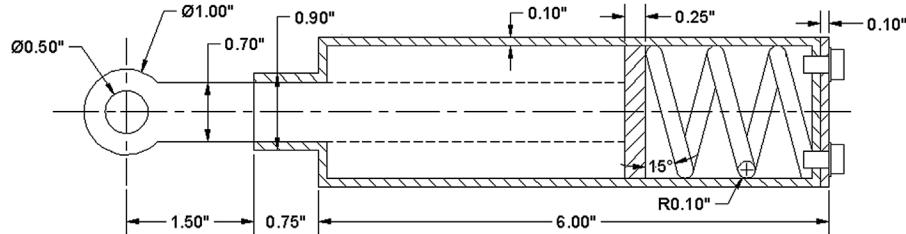
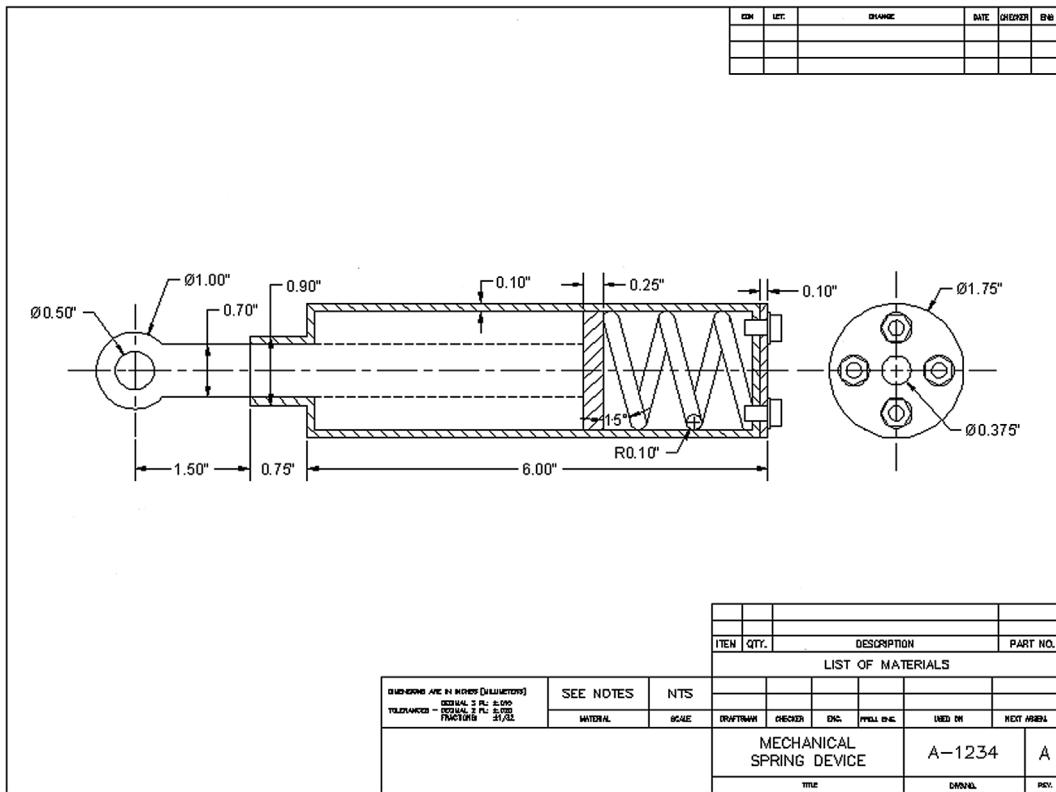

FIGURE 8.32 Completed side view.
FIGURE 8.33 Mechanical project—final.
A full-page view of the completed device is found toward the end of the chapter, see Fig. 8.33. Take a good look at it and decide on a strategy to draw it. Over the course of the next few pages, you will see a step-by-step process to actually do it. Follow the steps carefully, and do not worry about the thick border; i.e., a polyline, to be covered in Level 2. The title block is otherwise just a simple collection of lines and text.
**Step 12.** Finally, add dimensions (Fig. 8.32) and a title block (Fig. 8.33) by use of rectangles. The title block and its contents are typical of a mechanical engineering drawing.